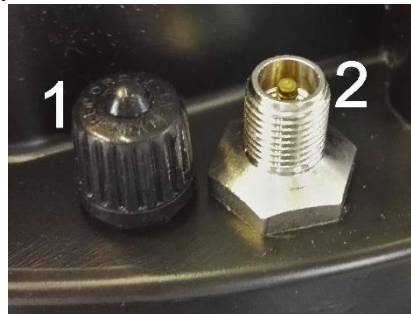

Figure 17 - Lower Cover with Pressure Valve
- The assembly should be given a 1.38 kPa air pressure test. This can be done by connecting an external air pressure line to the valve (Figure 17– n°2) provided on the lower cover. Immerse the assembly under water, so air loss will be easily viewed if some part is damaged or assembling is wrong.